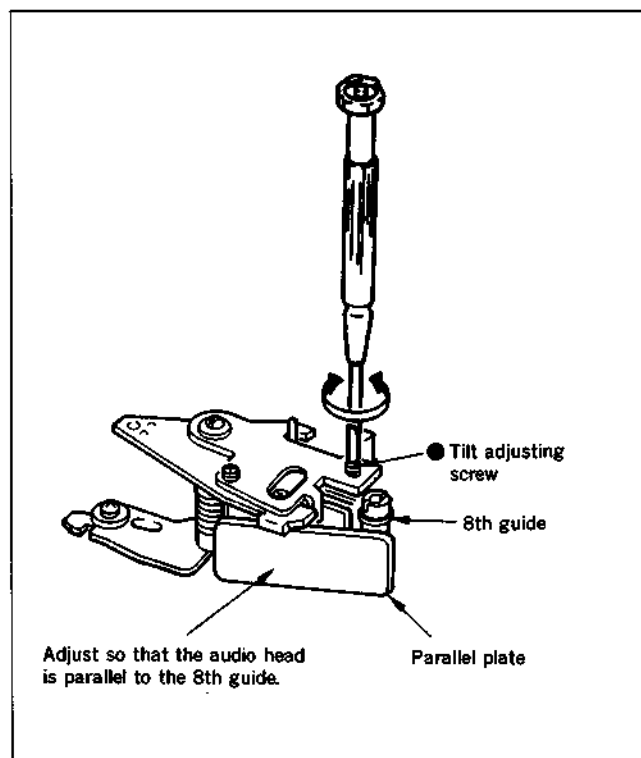

Fig. 7-40.
- 1) Set the parallel plate (Jig Ref. No. J-11) as shown in Fig. 7-40. Turn the tilt adjusting screw ① to adjust the audio head to a vertical position.